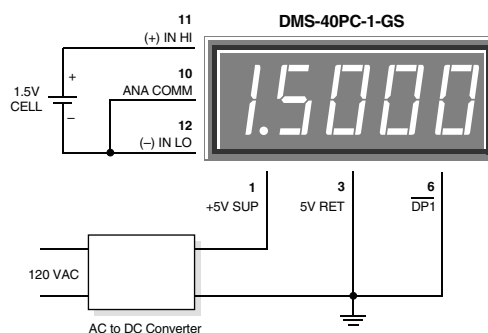

Figure 5. Floating Input Measurements
4. Floating Signal Source Measurements: A floating input is a signal that, before it is applied to the DMS-40PC's inputs, has no galvanic connection (direct current path) to the meter or the meter's power supply. The circuit shown in Figure 5 illustrates the necessary connections for measuring floating inputs. The 1.5V battery represents a true floating input signal since it initially has no connection whatsoever in common with the meter. Real-world floating inputs typically originate from power supplies which are transformer isolated from the DMS-40PC's +5V supply.
As the timing diagram in Figure 5 indicates, 100Hz is the optimum display scan rate when the BCD outputs are used to drive external LED displays. Faster scan rates, while permissible, are not necessary. Slower scanning, however, may result in noticeable “flickering” of the display. Common anode LED’s, combined with a 74LS247 BCD to seven-segment decoder, is the simplest way of implementing an